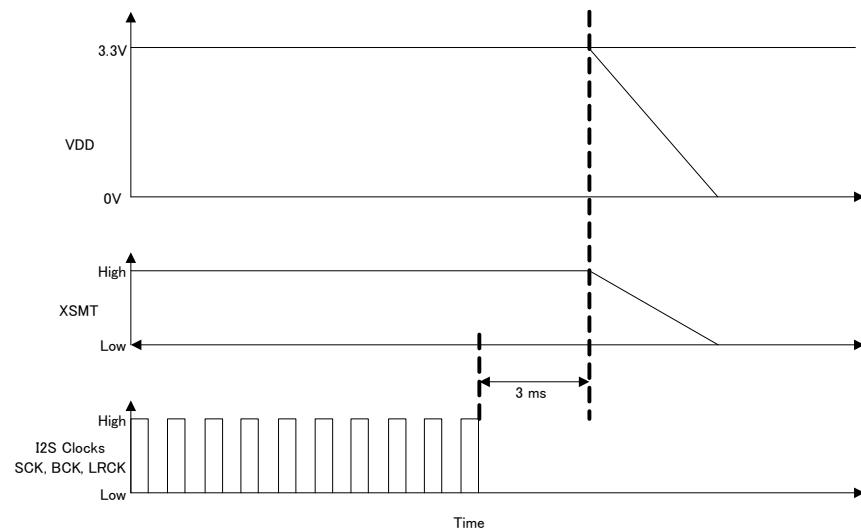

Figure 37. Stop I²C Clocks
- Stop I²S clocks (SCK, BCK, LRCK) 3 ms before powerdown as shown in Figure 37.